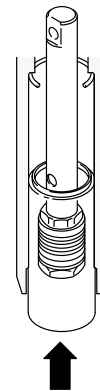

Fig. 33 02576
- Slide the sleeve/piston rod assembly into the bottom of the cylinder. See Fig. 33.